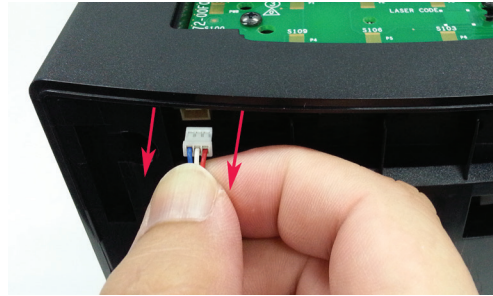

Figure 7. Keypad, IR Cable Removal
2.1 Figure 7. Detach the IR cable from the keypad assembly.